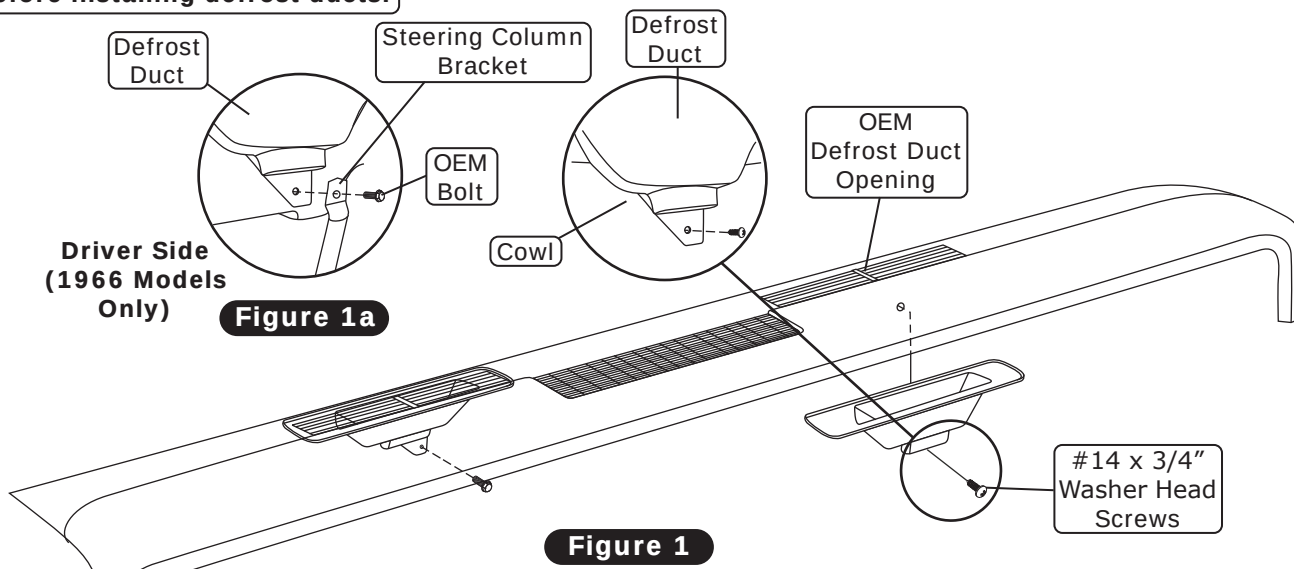

Figure 1
3. Mark and drill (2) small pilot holes (See Photo 3, below), then install the (2) #8 x 1/2" pan head screws (See Photo 4, below). Repeat the process for the second defrost duct.
4. Install the defrost ducts under the dash, aligning them with the OEM openings (See Photo 5, below). Secure the driver- and passenger-side defrost ducts to the cowl using (2) #14 x 3/4" washer head screws (See Photos 5, 6 and Figure 1, below). **NOTE: On 1966 models, the driver-side defrost duct installs behind the steering column bracket and is secured using the steering column OEM bolt as shown in Figure 1a, below.**